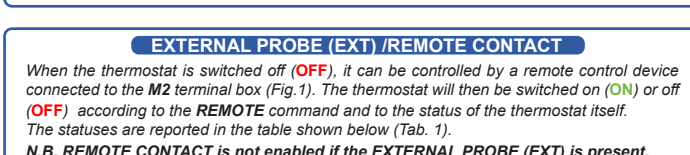

Fig. 1
The **FROST PROTECTION FUNCTION** remains on when the thermostat is switched **OFF**. If the detected temperature falls below 7,0°C (7,0°C - 0,2°C = 6,8°C), the device activates a system which keeps water circulating and prevents it from freezing inside the pipes (Fig. 1).
When the thermostat is switched **OFF** (OFF), it can be controlled by a remote control device connected to the **M2** terminal box (Fig.1). The thermostat will then be switched on (ON) or off (OFF) according to the **REMOTE** command and to the status of the thermostat itself. The statuses are reported in the table shown below (Tab. 1).